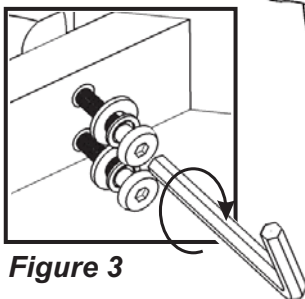

Figure 3
Attach Leg (E) to unit with Flat Washers, Spring Washers and Head Cap Bolts. (See Figure 3)